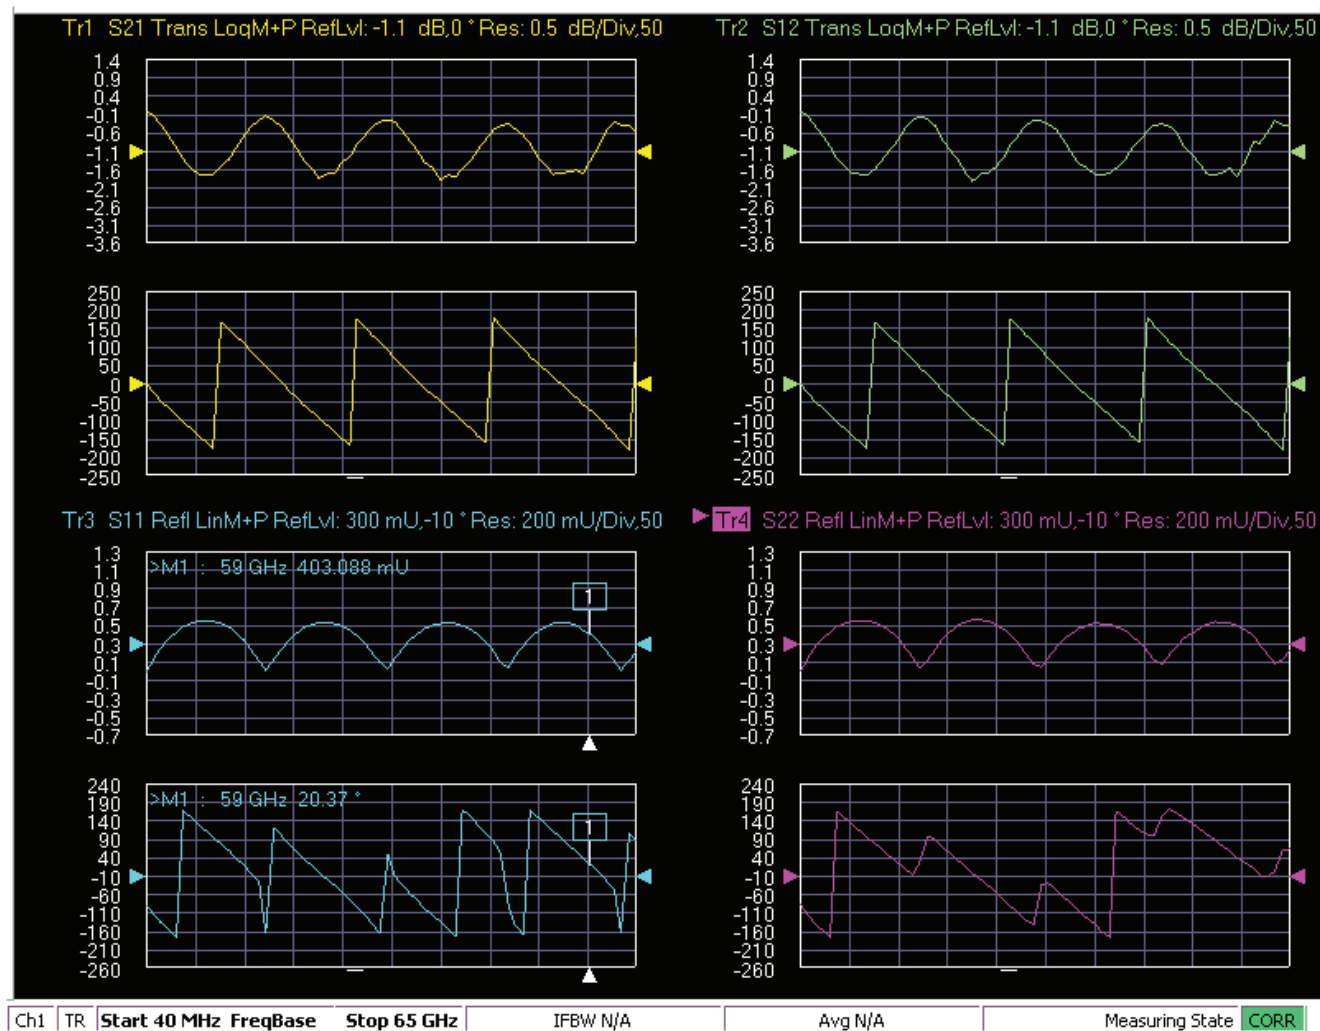

Figure 2-46. MS4640A/B Series VNA, Typical Mismatched Thru Data in Low Band
7. When the test completes, the program returns to the main menu described Section 2-9 “Application Interface – Main Menu Tab” on page 2-24 above, and the display should look similar to Figure 2-46 below. This is a typical display immediately after measuring the Mismatched Thru in the Low Band. Please note this is for reference only and that the actual data on the VNA display may not be identical.